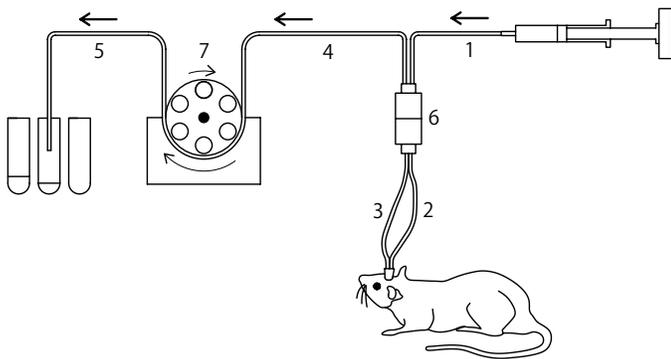

Fig. 3 - Tubing Diagram
Connect all tubing as shown in Figure 3. Table 1 shows the model names of tubing, size, material and approximately internal volume of each tube shown in Fig.3. The tubing between the probe and peristaltic pull pump has to be 0.25 mm ID to allow smooth withdrawal of the sample. Tubing length can vary depending upon your exact setup. Please try to minimize the length of tubing used between the probe and the fraction collector.
Both the syringe and peristaltic pumps should still be stopped and flow rate settings of the syringe pump is at 10  $\mu\text{L}/\text{min}$  and ERP-10 is showing "0200". Remove the bypass where the probe will be placed and connect the inlet and outlet. Start the syringe pump and start the peristaltic pump immediately after confirming a little leak from the vent holes. Pay attention there might be a lag time on the syringe pump caused by a mechanical play, see section 6. Confirm that an air segment no larger than approx. 5 cm (= 2 inch, 2.5  $\mu\text{L}$ ) has entered the outlet tubing. (see #3, #4 or #5 on Fig. 3).
- Clogging happens mostly on the tubing #3 or outlet of the probe after the vent. To fix, please disconnect the swivel and replace to a 1 mL syringe containing water at the tubing #3 out (see Fig. 3 and Fig 4). Then infuse water toward the probe via tubing #3. The flush will come out from the vent and you can use water.